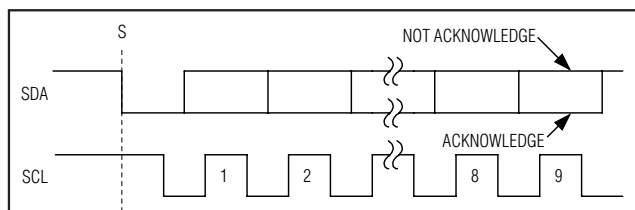

Figure 6. Acknowledge Bits
Data transfers are acknowledged with an acknowledge bit (A) or a not-acknowledge bit ( $\bar{A}$ ). Both the master and the MAX1236-MAX1239 (slave) generate acknowledge bits. To generate an acknowledge, the receiving device must pull SDA low before the rising edge of the acknowledge-related clock pulse (ninth pulse) and keep it low during the high period of the clock pulse (Figure 6). To generate a not-acknowledge, the receiver allows SDA to be pulled high before the rising edge of the acknowledge-related clock pulse and leaves SDA high during the high period of the clock pulse. Monitoring the acknowledge bits allows for detection of unsuccessful data transfers. An unsuccessful data transfer happens if a receiving device is busy or if a system fault has occurred. In the event of an unsuccessful data transfer, the bus master should reattempt communication at a later time.